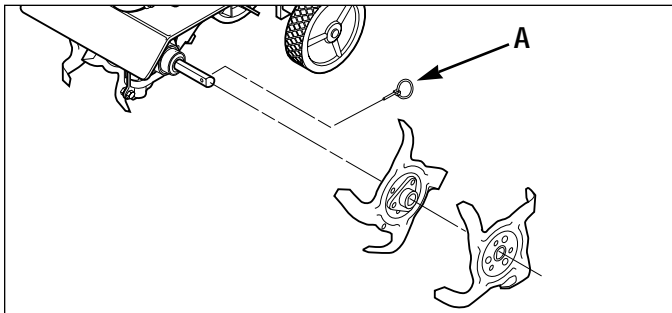

Figure 16: Remove ring lock pin (A) to take off tines.
IMPORTANT: The ring lock pin (A, Figure 16) is under spring tension – wear gloves to protect your fingers when removing or replacing the ring lock pin.
- Flip open the ring (A, Figure 16) on the left side ring lock pin and remove the ring lock pin.
- If tilling in stony soil, remove the ring lock pin (A, Figure 16) from both sides of the unit. Remove both outer tine sections. Mark each section as a left or right side tine and whether it is an inner or outer section.
- Remove the ring lock pin (A, Figure 16) from both sides of the unit. Remove the old tine sections and replace them with new tine sections. Refer to Figure 16 and the tine pattern shown in the *Parts List* for tine positioning details. (The tines are excessively worn if tilling takes much longer than before and the soil is not being mixed thoroughly.) Insert the ring lock pins through the rounded side of the tine shafts and snap the ring over the shaft (see DETAIL, Figure 4, in the *Assembly Section*).